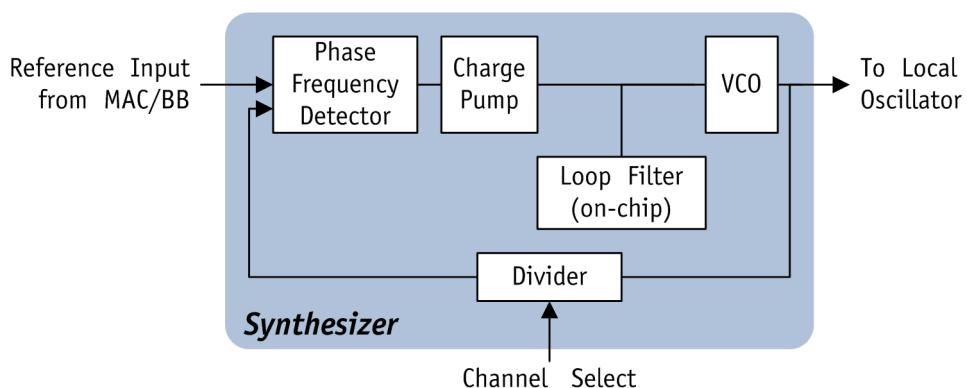

Figure 8-4. Radio Synthesizer Block Diagram
The radio supports an on-chip synthesizer to generate local oscillator (LO) frequencies for the receiver and transmitter mixers. The synthesizer has the topology shown in Figure 8-4. The AR9344 generates the reference input from a 40 MHz crystal for the synthesizer. An on-chip voltage controlled oscillator (VCO) provides the desired LO signal based on a phase locked loop.